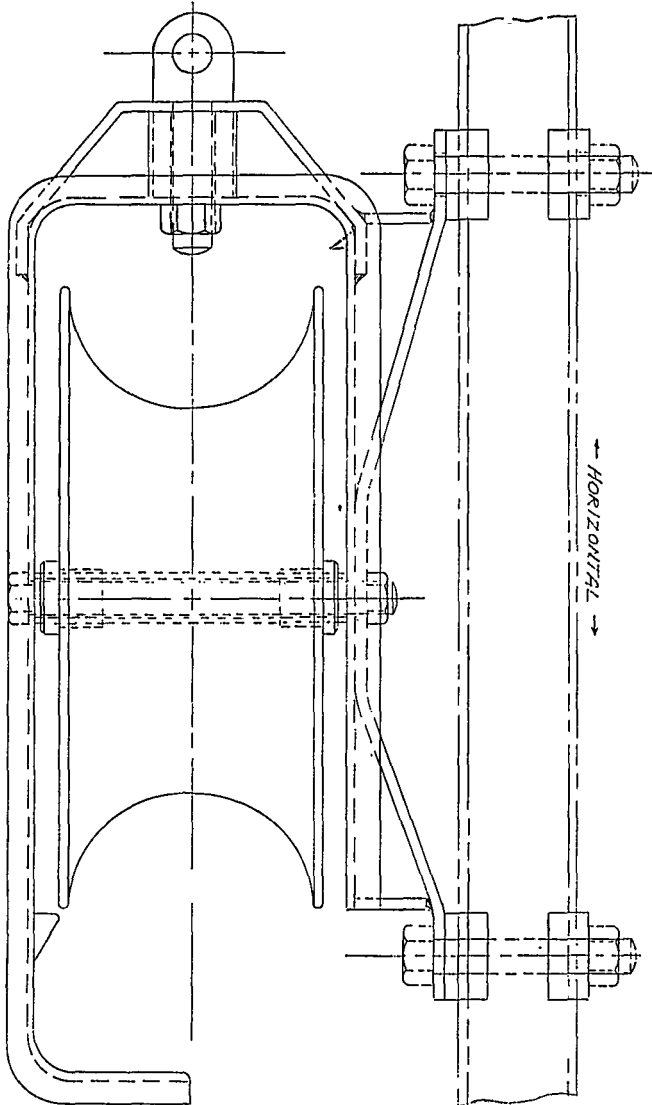

FIG.5 DET.2 SHEAVE ATTACHED TO AUXILIARY FRAMING (PAR. 3.51)
3.51 Detail 2 sheave is mounted horizontally from existing or temporary framing bars erected in the required location. Temporary framing bars should be installed diagonally from corner to corner on the high type superstructure above the cable turn. Locate the sheave as close to the ceiling insert supported end to provide secure anchorage. The open end of the yoke should face toward the outside of the turn. The yoke is provided to enable the installer to lift out the cable and place it on the rack when the pulling operation has been completed. Figures 5, 6 and 7 show typical mounting arrangements.